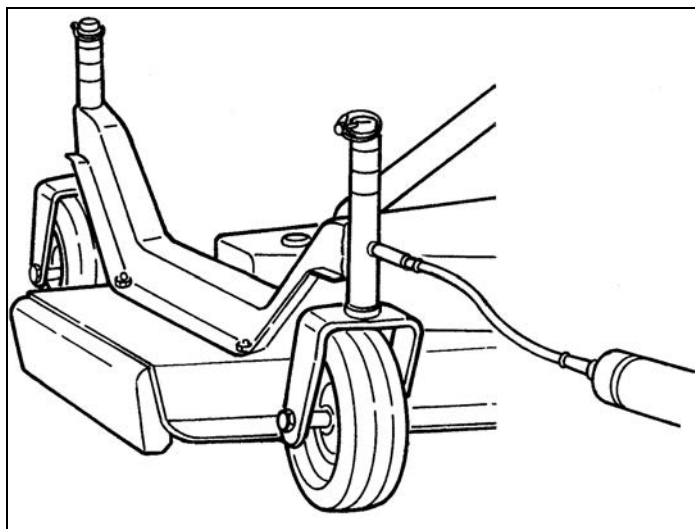

Fig. 11
1. **Lubricate the driveline (see fig. 10) and the wheel yokes (see fig. 11):** Apply two or three shots of grease to the driveline cross and bearings and to the inner and